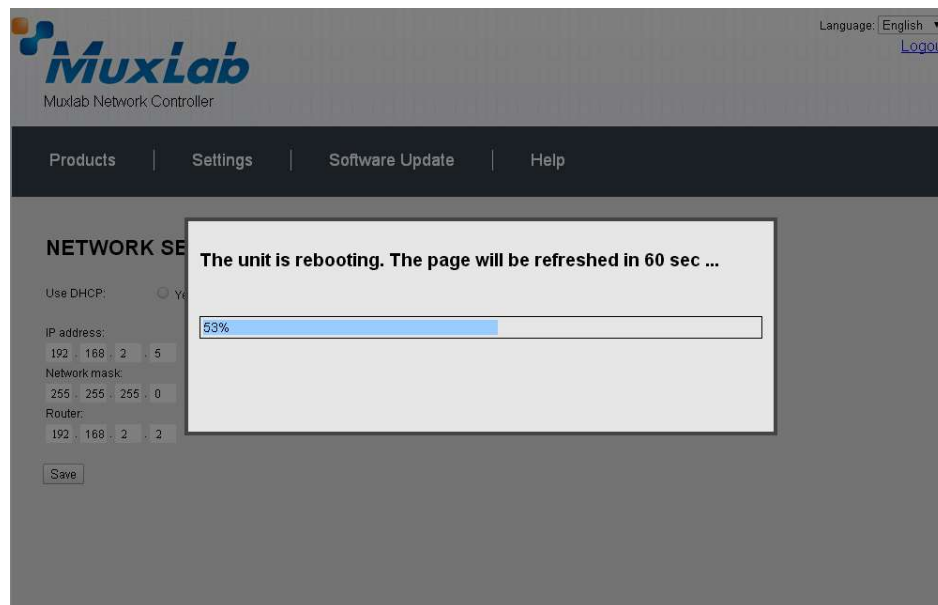

Figure 16 MNC Reboot Screen
16. Click on **Save**. The MNC will reboot (Figure 16).